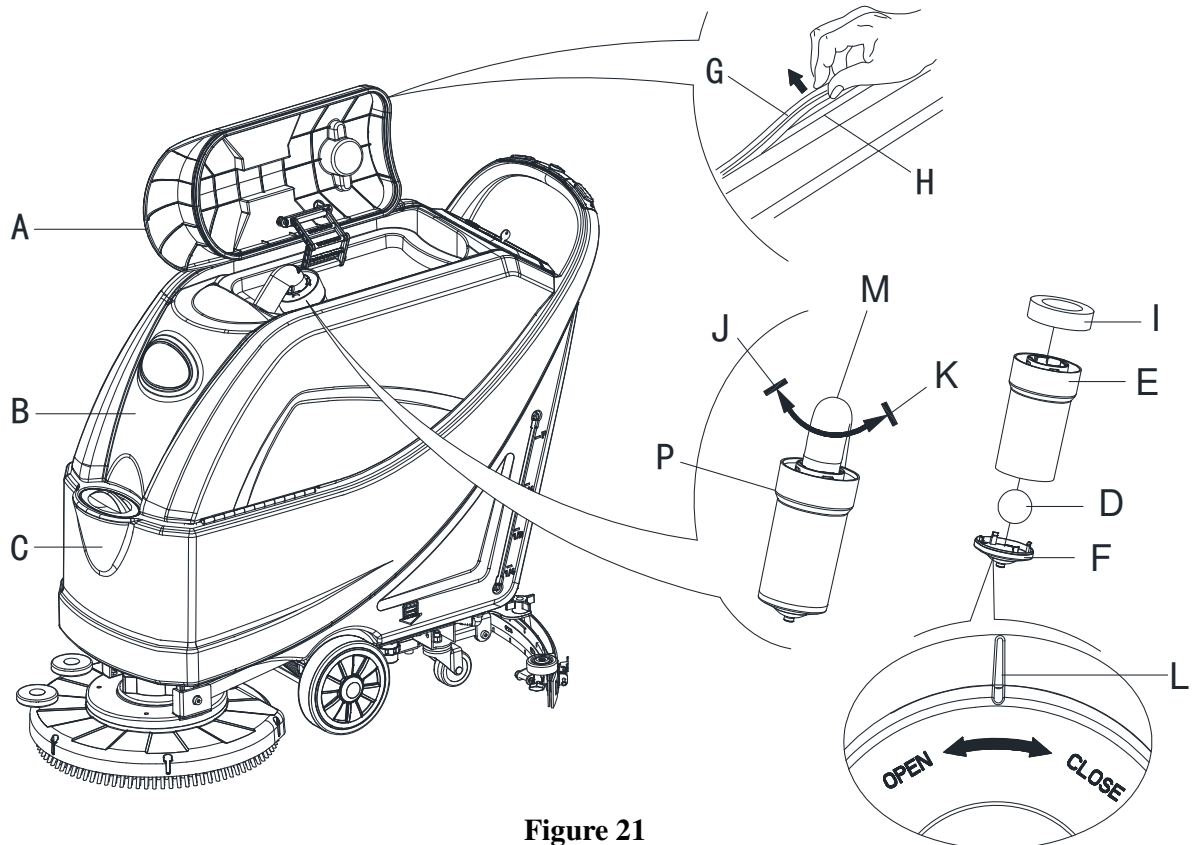

Figure 21
2. Ensure that the machine is off and the ignition key (54) has been removed.
3. Turn the recovery tank lid (A, Figure 21) 90 degree position where it can be took off from the tank, and then take down the float ball filter (P) from the tank.
5. If necessary, follow the symbols “OPEN” and “CLOSE” as shown in (Figure 21) to open the bottom cover (F) of float ball filter and then clean the float ball (D), filter support frame (E) and filter sponge (I). After cleaning, fix the float ball (D) into the filter support frame (E) and then align the mark groove (L) of the bottom cap (F) of the float ball filter with the mark groove (L) of the float filter support frame (E).Screw the bottom cap of the frame (E) of the float ball filter tight, and fix the filter sponge (I) onto the float filter support frame (E). Finally, connect it to the sewage suction hose (M).
**Tank sealing strip (G) makes to produce the vacuum inside the tank when suction motor works. The tank must be sealed can effectively absorb the water from the ground to recovery tank.**
7. Check whether the contact surface of sealing strip (G) is integrity and sealing is sufficient. If necessary, take the sealing strip of the tank out of the groove (H) and replace it. Assembly the new sealing strip as shown in (Figure 21), the joint should be back in the middle area.
8. Close the recovery tank lid (A).